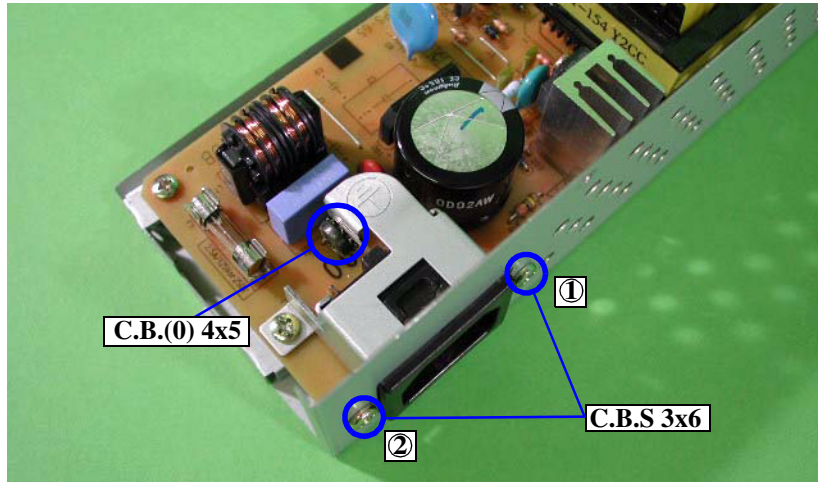

Figure 4-27. Screws Securing the AC Inlet Mounting Plate
- When installing the power supply board assembly and the AC inlet mounting plate, the screws should be installed in the order shown in the illustration. (Figure 4-27, 4-28)